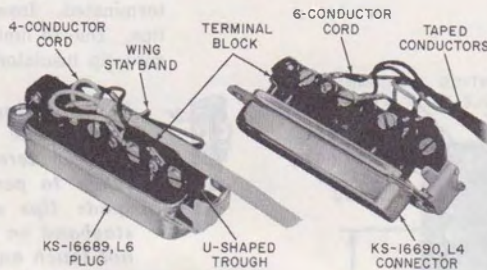
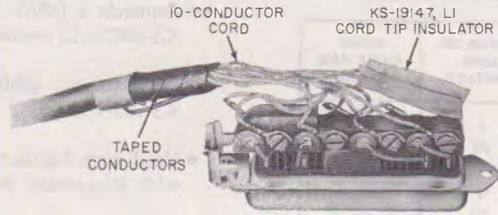

Fig. 9—153A and 153B Adapters, Hood Removed
Fig. 11—10-Conductor Cord in 153-Type Adapter
- 153A adapter consists of a KS-16689L6 plug with a terminal block fitted to the back of plug body (Fig. 9).
(Fig. 9) serves to retain the wing-type stay band of cords so equipped.
- Cords with up to ten conductors (Fig. 9 and 11) may be used with the 153-type adapter. Only eight spade tips can be terminated. Insulate and store extra spade tips. Due to limited space, use KS-19147L1 cord tip insulator (Fig. 11).